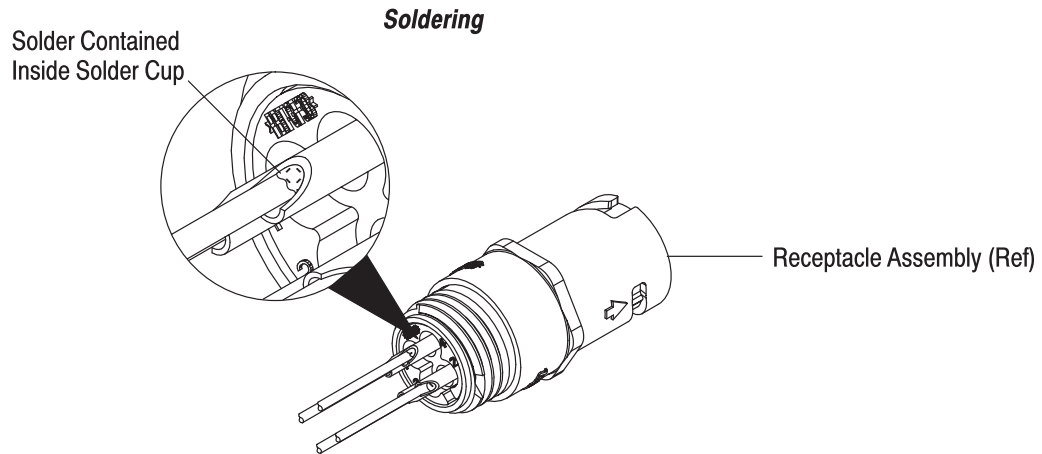

Figure 4
3. The solder cup must be full with the solder contained inside the cup. Refer to Figure 4.